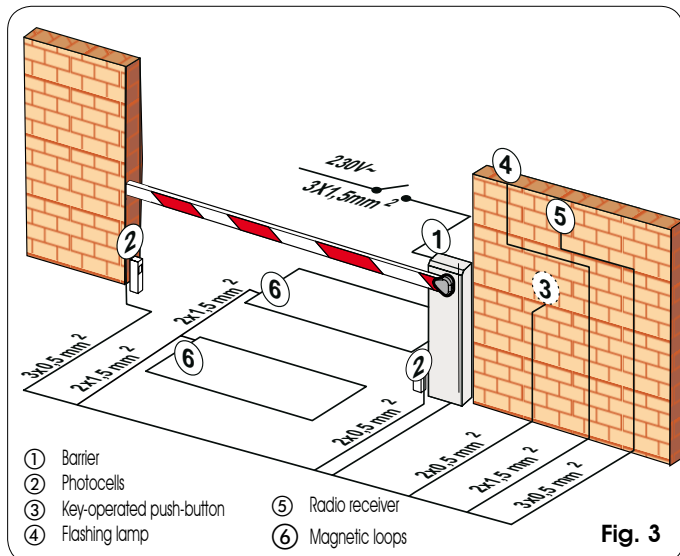

Fig. 3
**👉** Observing the indications in fig.3, install the raceways and make the electrical connections from the control unit to the selected accessories. Always separate power cables from control and safety cables (push-button, receiver, photocells, etc.).